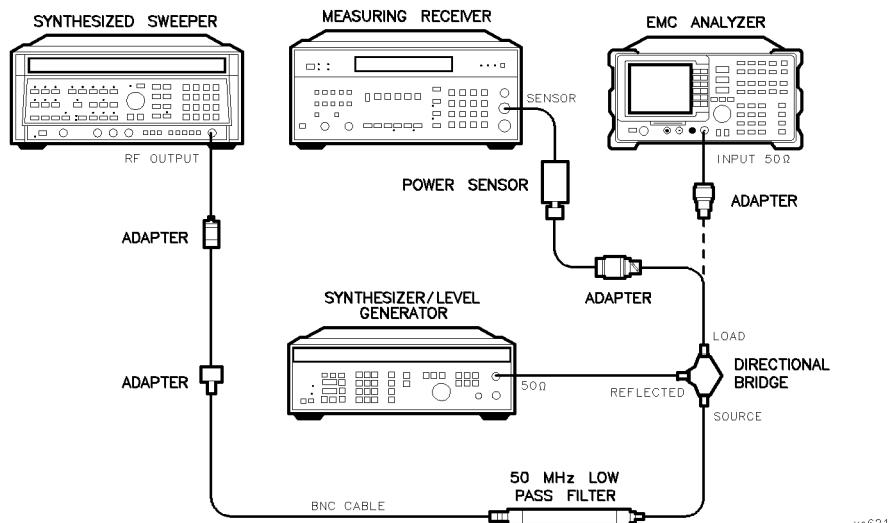

Figure 2-39.
2. Connect the equipment as shown in Figure 2-39 with the output of the directional bridge connected to the 100 kHz to 1.8 GHz power sensor.